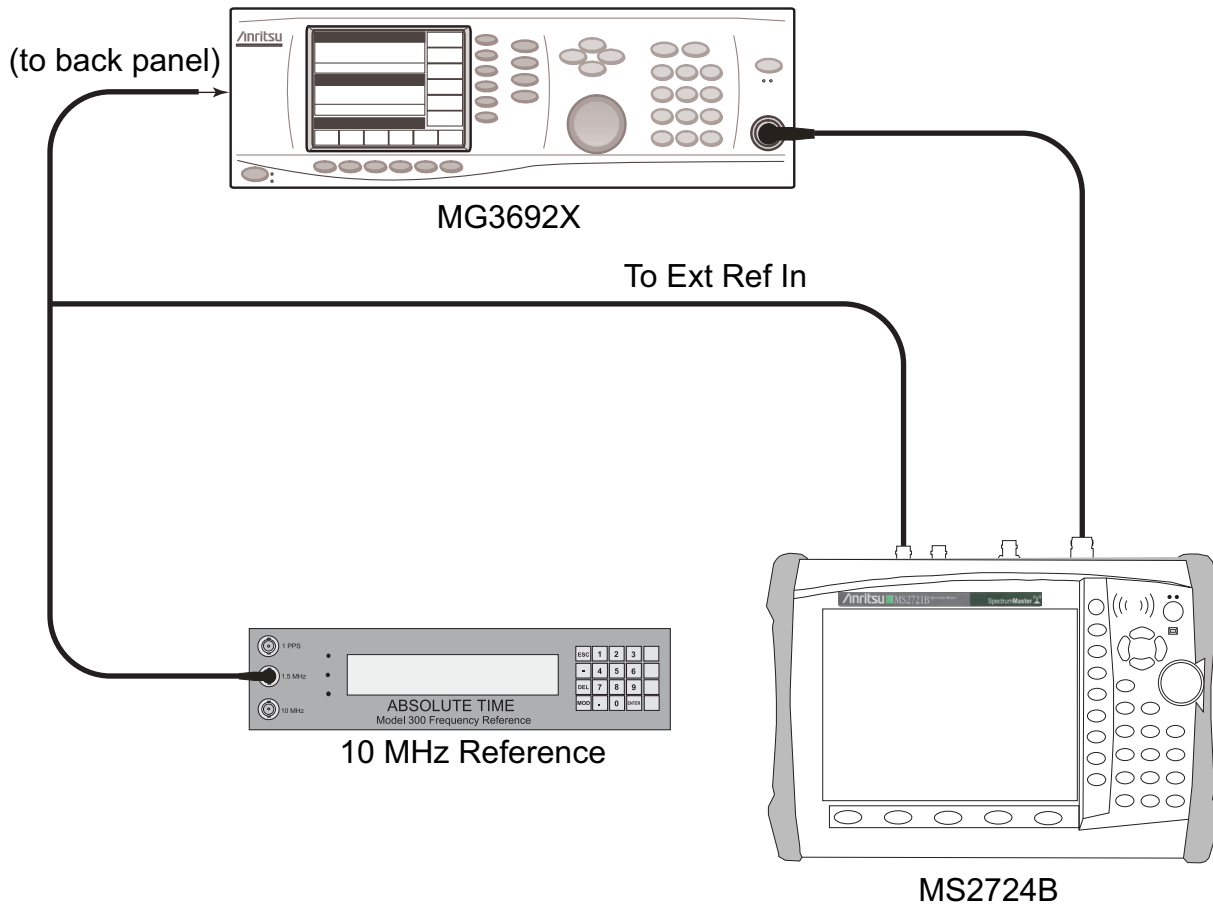

Figure 2-3. Spectrum Analyzer Resolution Bandwidth Accuracy – Test Setup
1. Connect the external 10 MHz Reference both to the MG3692x Synthesized Signal Generator and to the Spectrum Master MS2723B or MS2724B, as shown in Figure 2-3.